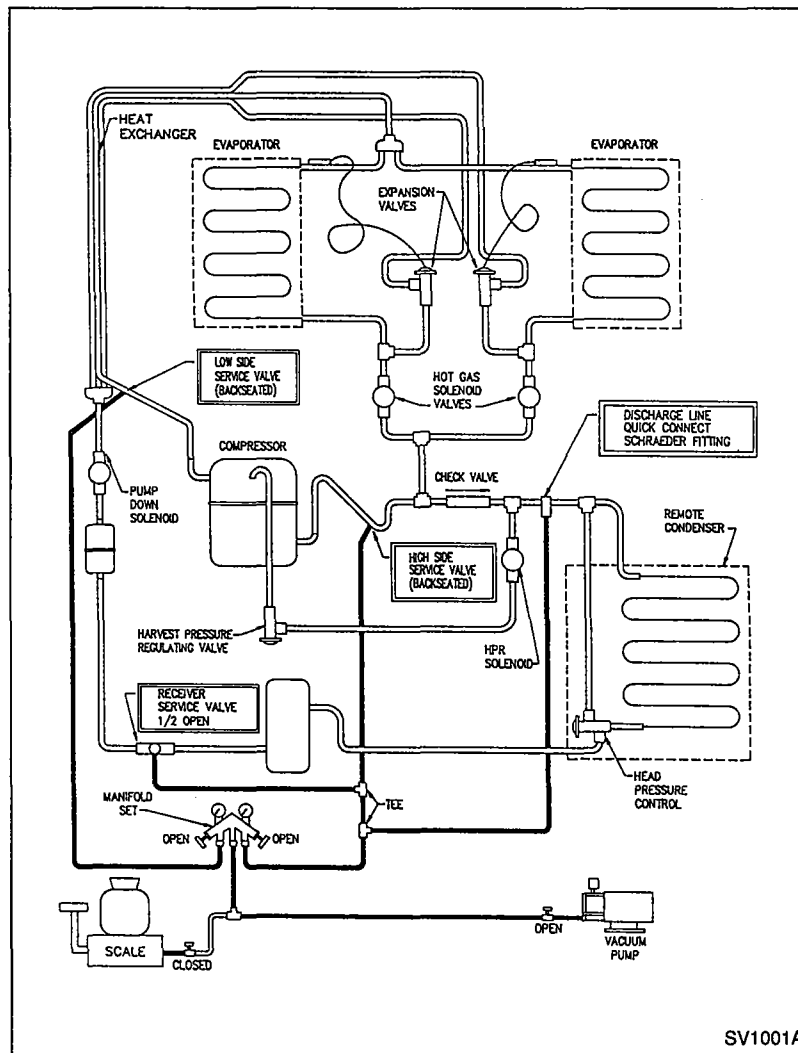

**FIGURE 72. RECHARGING OF SELF-CONTAINED SYSTEMS**
1. Ensure toggle switch is in OFF position. Refer to Figure 72 and recharge system.